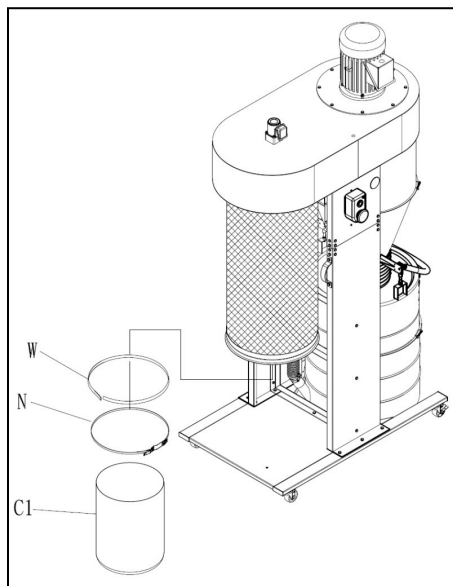

Figure 5-11
26. Apply 3/4Wx50L inch foam tape (W, Figure 5-11) to lower groove of canister filter, just above the lip.
27. Install canister collection bag (C1) beneath canister filter and secure with bag clamp (N).